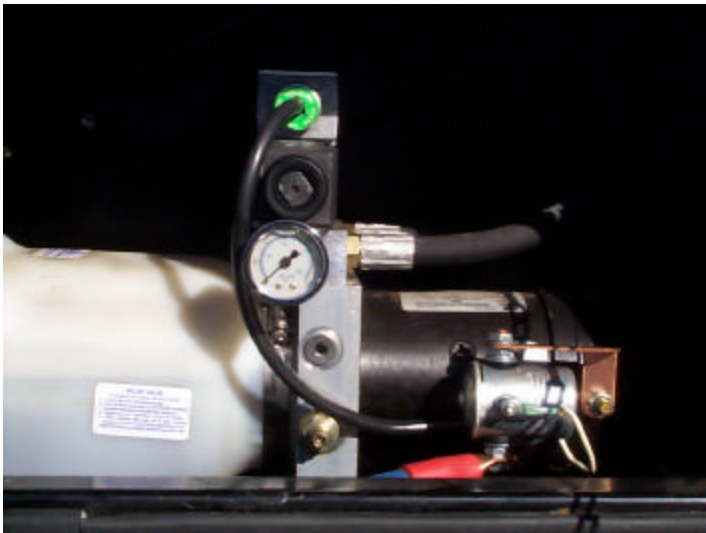

Figure 1
2. Locate pressure gauge mounted to the side of the hydraulic unit (**See figure 1**).